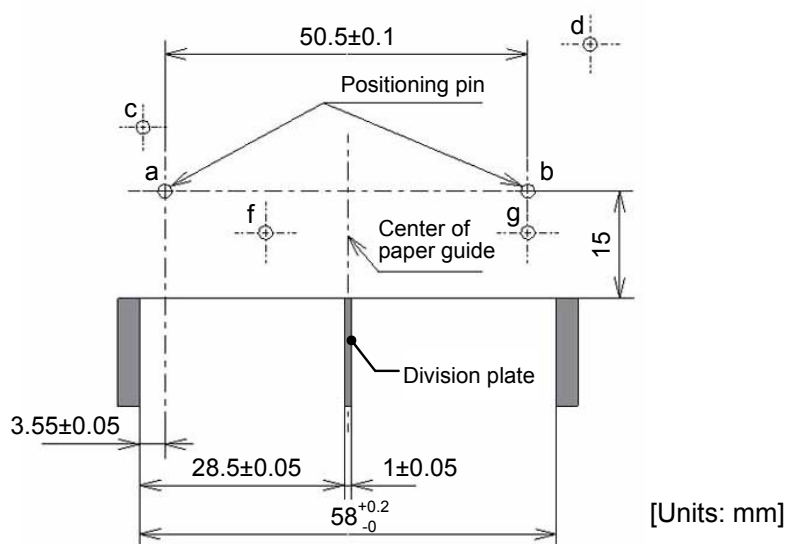

Figure 3.1.3
- 6) Design the case for the roll paper supply unit for guiding  $27.5 \pm 0.5$  mm wide paper as shown in Figure 3.1.3. Polycarbonate, SUS (stainless steel), or other less-wearing materials are recommended for the division plate.